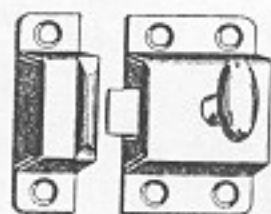

Fig. 308. Cupboard catch.
2. Cupboard catches (Fig. 308) are simply screwed to the outside surfaces of cupboard doors. Elbow catches lock automatically by means